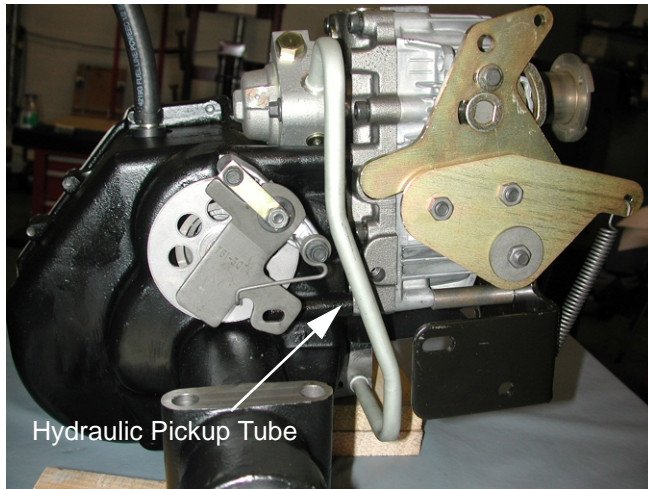

Figure 6
9. Remove the hydraulic pickup tube and inspect for contamination. See Figure 6.